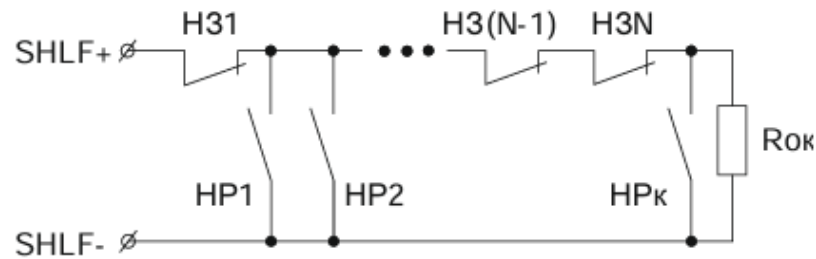

Figure 1. Security Sensor Wiring Diagram
It is recommended to use the following wiring diagram for security sensors with Normally Closed (NC) and Normally Open (NO) contacts (see Figure 1).